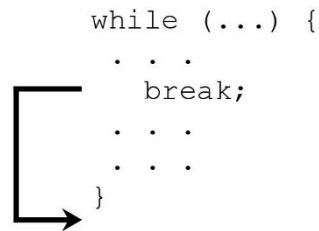

Figure 6.8: break statement illustration.
**break statement**—causes control to jump out of a loop or switch statement (see Figure 6.8).